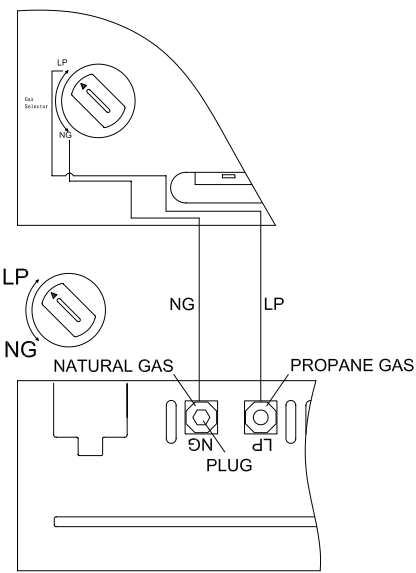

Figure 16
2. For propane gas, press in knob using a flat screw driver with a blade the thickness of a quarter and turn knob clockwise  until the knob locks into the LP position, see Figure 16. Selection valve must be locked in the LP position. Do not operate heater between locked positions.